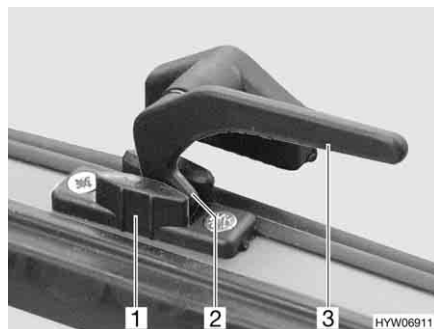

Fig. 98 Catch lever in the "continuous ventilation" position
- "Continuous ventilation" (Fig. 98)
- Turn all catch levers (Fig. 98,3) a quarter turn towards the centre of the skylight.
- Return all catch levers to their initial position. The locking catch (Fig. 98,2) has to be moved into the recess of the skylight lock (Fig. 98,1).